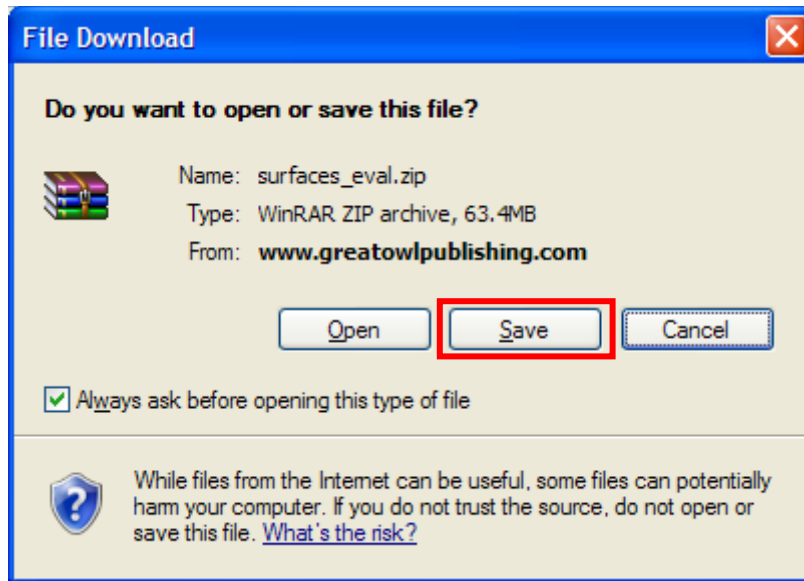

Figure 1-3: Getting ready to download the SURFACES installation files.
STEP 1.3 Press the link "DOWNLOAD EVALUATION PROGRAM!" shown inside the red box in Figure 1-2. Pressing it will cause the warning in Figure 1-3 to appear. Go to the next step.
STEP 1.4 Press the [Save] button (see red box in Figure 1-3). This will open the form in Figure 1-4 and allow you to save the installation files to a suitable location on your hard disk drive.